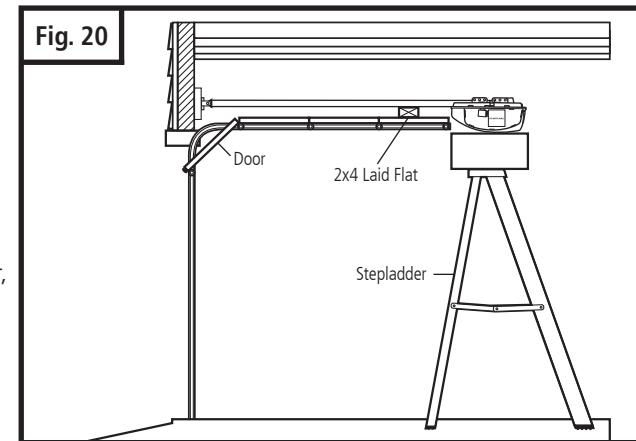

Fig. 20
- Open garage door to fully opened position, and place a 2x4 laid flat between the door and the rail. See Fig.20. This provides an easy method of ensuring the correct mounting height of the opener.